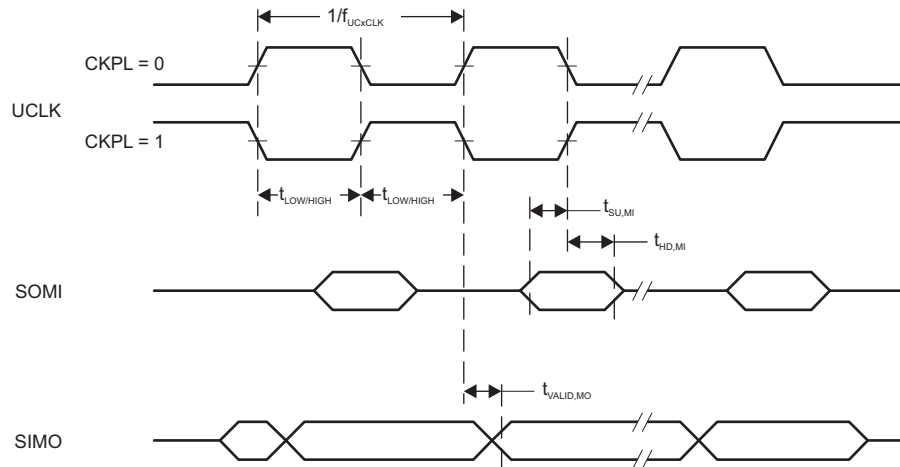
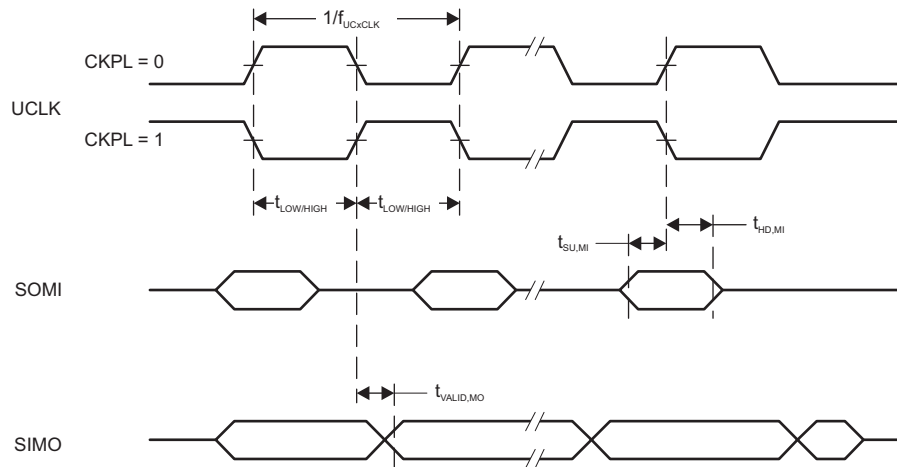

Figure 5-11. SPI Master Mode, CKPH = 0
Figure 5-12. SPI Master Mode, CKPH = 1
(2) Specifies the time to drive the next valid data to the SIMO output after the output changing UCLK clock edge. See the timing diagrams in Figure 5-11 and Figure 5-12.
(3) Specifies how long data on the SIMO output is valid after the output changing UCLK clock edge. Negative values indicate that the data on the SIMO output can become invalid before the output changing clock edge observed on UCLK. See the timing diagrams in Figure 5-11 and Figure 5-12.